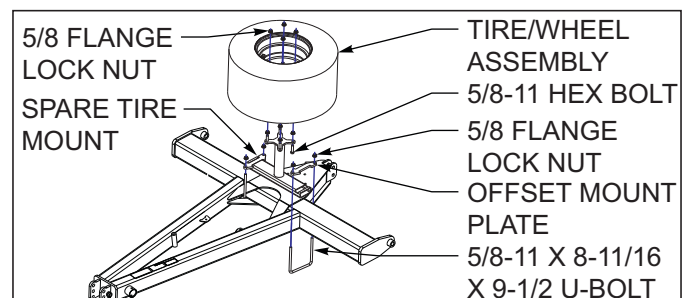

Figure 3-1: Spare Tire Assembly
- Attach Optional spare tire and mount to rear of hitch as shown (See Figures 3-1)